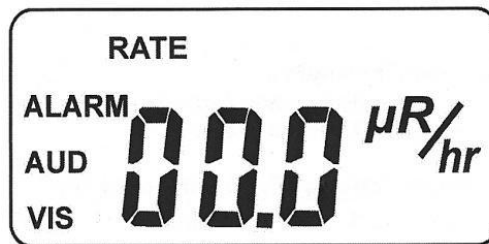

Figure 2 – The Rate Display
- The Rate Mode should appear, with the word *RATE* shown at the top left of the screen (Figure 2).